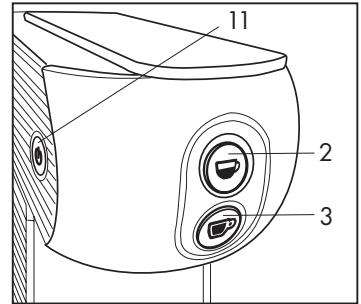

Fig. 11
- Check that there are no capsules in the machine and turn it on with the main switch (11).
- Close the small cup support (10) and place a large empty cup under the dispensing spout (4).
**Big cup:** Press and hold the button (3). The machine will start delivering water. Once the desired water level is reached release the button (3). The machine will then stop delivering water and the desired quantity will be memorized for future dispensing. **(Fig.11)**
**Small cup:** Press and hold the button (2). The machine will start delivering water. Once the desired water level is reached release the button (2). The machine will then stop delivering water and the desired quantity will be memorized for future dispensing. **(Fig.11)**